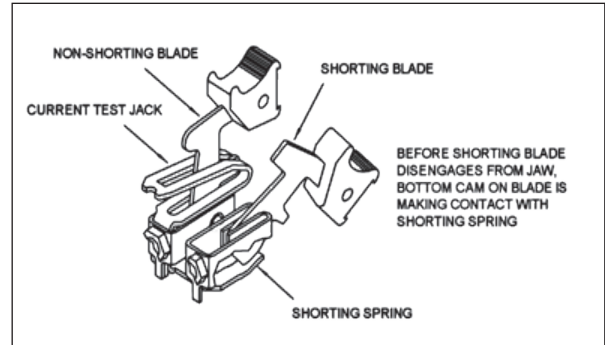

Figure 2. Blade assembly of 2 position pole "C-C" (rear view outside of base)
Each individual pole is of a knife blade type. There are two different types of poles, Potential and Current. Potential poles (P) are configured as single, non-shortening knife blades for use in potential, trip, or control circuits. Current poles are typically configured in sets of two (C-C), for use with current circuits, and consist of a current test jack, a shorting spring, a shorting blade, and a non-shortening blade (see Figure 2). The positions of the short circuit springs are always visible from the front of the switch.